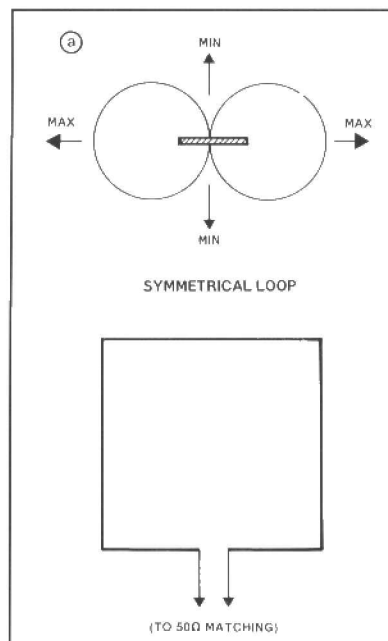

Fig. 2.
The main problems with this design were (1) the difficulty in rapid changing of frequency by more than a few kilohertz and (2) although the figure-of-eight radiation pattern (see Fig. 2) was ideal for reducing interference on a wanted signal, stations on the opposite compass bearing occasionally caused strong interference.